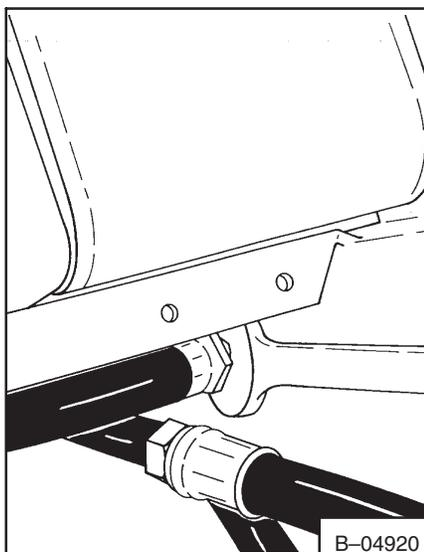

Fig. 2-87 Removing Hose
4. Remove the reservoir hose (Fig. 2-87).
3. Install the reservoir hose (Fig. 2-87).